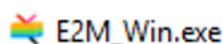

Figure 2. File icon of E2M-Win
1. Launch **E2M-Win** by double-clicking the application icon as shown in Figure 2.